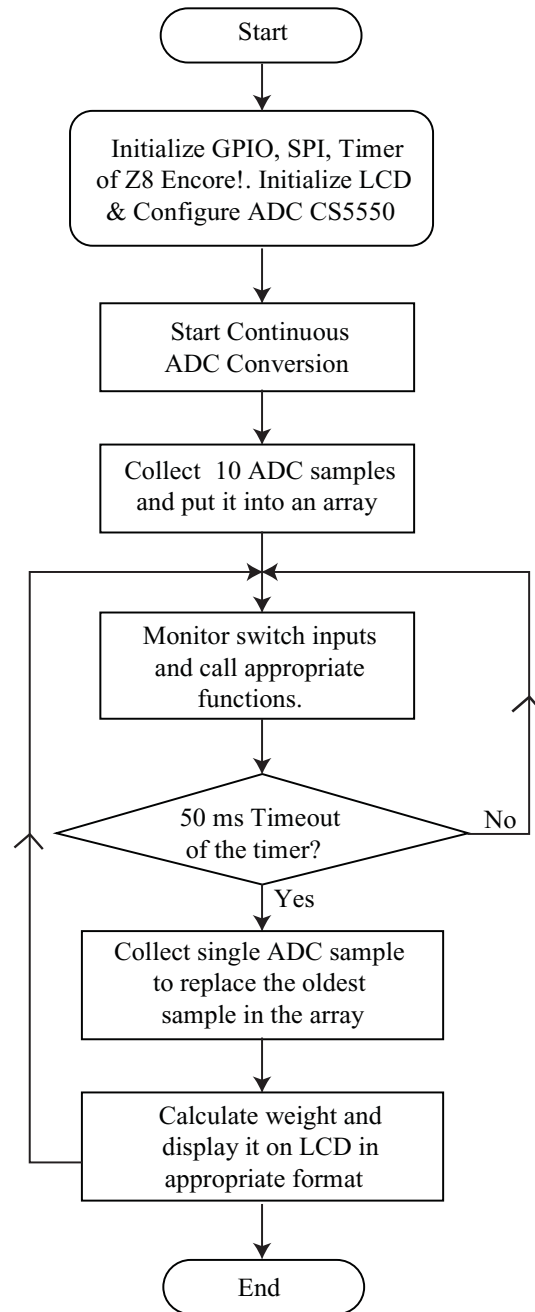

Figure 4. Main Function
TARE is a term used in weights and measurements which refers to the weight to be subtracted from the gross-weight in order to obtain the net weight. For example, to measure the weight of contents in a container, the weight of container (TARE) is subtracted from the gross weight (weight of container + weight of contents). For more details on usage, see Using TARE Function on page 4 and for software implementation, see Figure 4 on page 5.
- Main Function (Figure 4)